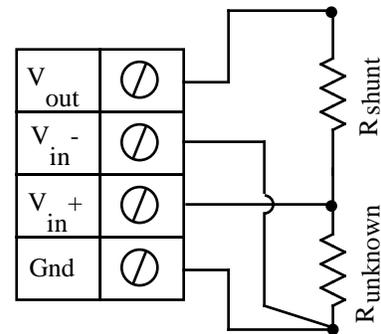

Fig 3.4 - Resistance Measurement - Voltage Divider Method
6. Wire your voltage source per figure 3.4, and refer to the steps at the beginning of this chapter for more information on how to set up your sensor.10